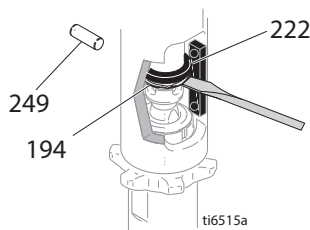
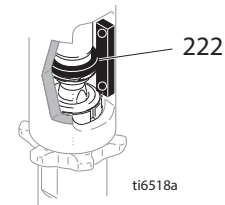

Fig. 12
Fig. 15
- 4 Fig. 12. Push magnet ring (222) up. Push retaining spring (194) up. Push out pin (249).
- 2 Fig. 15. Slowly pull engine starter rope until pump rod pin hole is aligned with hydraulic rod hole. Fig. 12. Push pin (249) into hole. Push magnet ring (222) down. Push retaining spring (194) into groove.